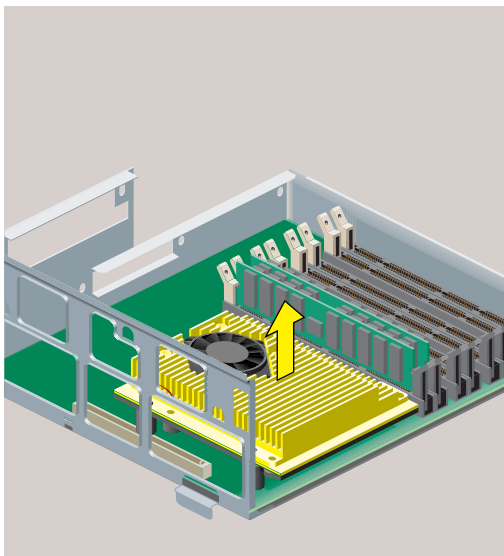

Figure 5-14 Removing the R10000 CPU Module
8. Grasp the CPU module on both sides and gently rock it out (Figure 5-14). Do not exaggerate the rocking motion, or you will bend the pins.